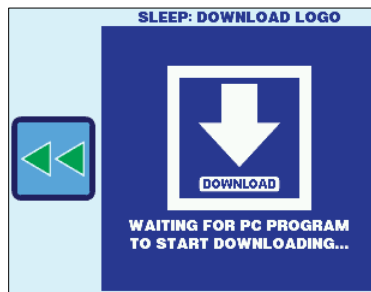

Figure 39 – Sleep Custom Logo Download Screen
**Download Custom Logo** - This feature button is normally grayed out unless the EasyTouch detects that the special programming cable is plugged into its 8-pin jack. Figure 39 shows the Down Custom Logo screen as it normally appears before a download is initiated.